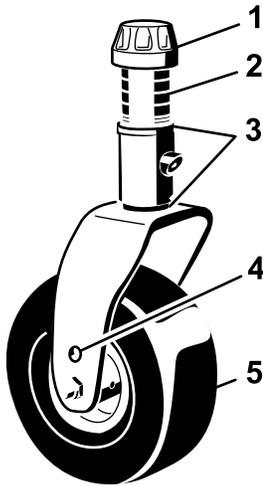

Figure 30
3. Adjust the shims (3 mm or 1/8 inch) on the front caster fork(s) to match the height-of-cut decal (Figure 30); refer to Adjusting the Height of Cut (page 28).